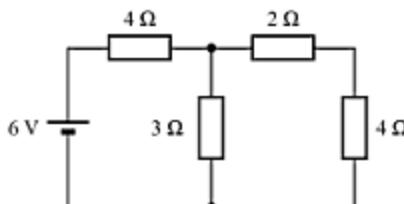

Fig. 4.52
22. For the circuit shown in Fig. 4.52, refer to Fig. 4.52. (a) Find the current in  $3\text{-}\Omega$  resistor. (b) What resistance, replacing the  $3\text{-}\Omega$  resistor,